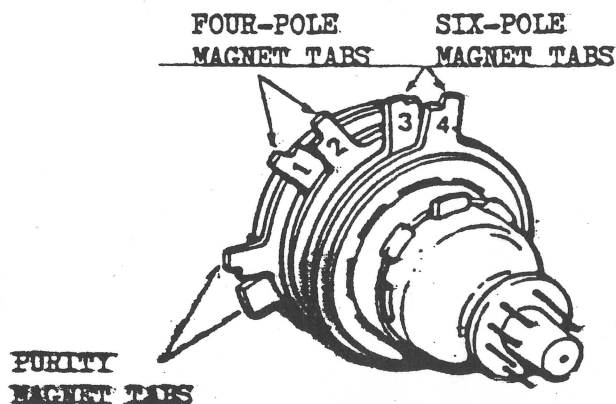

Fig. 3 PURITY AND CONVERGENCE MAGNET
Place the vertical red belt in the middle of the screen by closing, spreading and/or rotating the tabs of the two purity magnet rings. (See Fig. 3)
- c. Converge red and blue vertical lines in the center area by spreading or closing the tabs of magnet 1 and 2. (See Fig. 3)